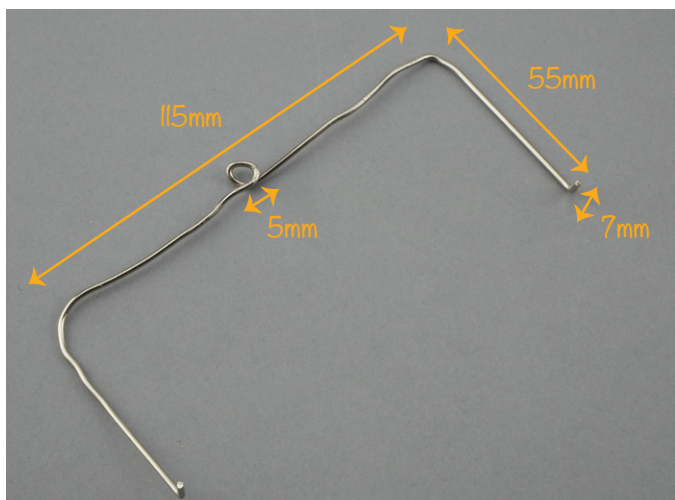

Figure 6-18: Making the connector between the servomotor and the eyeballs
17. To connect the servomotor to the eyeballs, you'll need to straighten out the other paper clip, as shown in Figure 6-18.